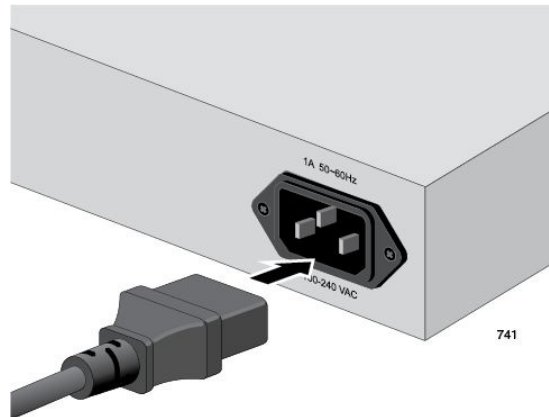

Figure 29. Plugging in the AC Power Cord
1. Plug the power cord into the AC power connector on the back of the switch, as shown in Figure 29.